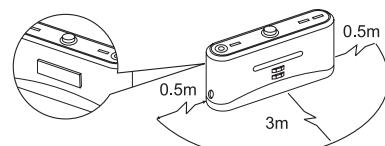

Figure 1
2. No obstacle or hollow areas 3 m away from the Docking Station in the front and 0.5 m on the right and left. (Refer to Figure 1)